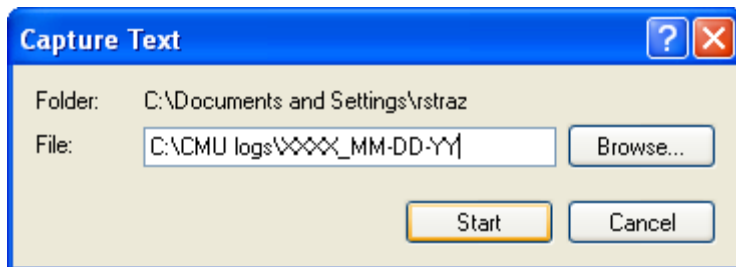

Figure 1.3
- 1.7. In the Capture Text dialog box, name the file as shown in Figure 1.3. Use the same convention as in step 1.3.